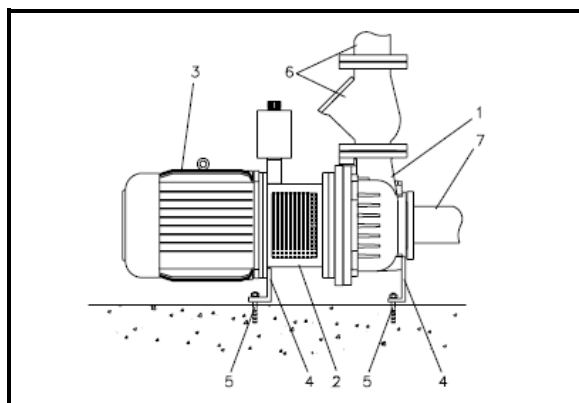

Fig. 7.5
Short coupled version, horizontal or vertical. See fig. 7.5 or 7.6.
- Fixation of the base-plate to the floor, see fig. 7.5 and 7.6 pos. 5.